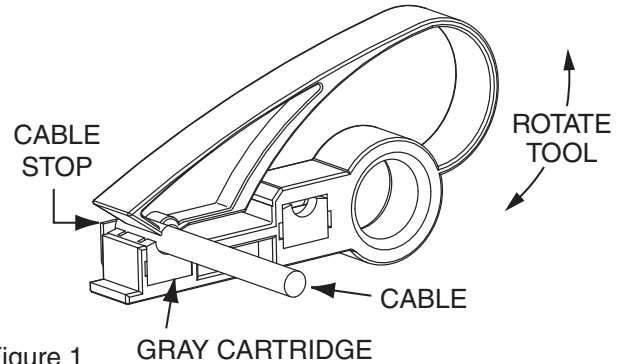

Figure 1
- 1) Cut the cable end off square before starting cable preparation. Ensure that the gray cartridge is properly mounted in the front position as shown. Open tool by squeezing the handle, then insert the cable up to the cable stop (see Figure 1).